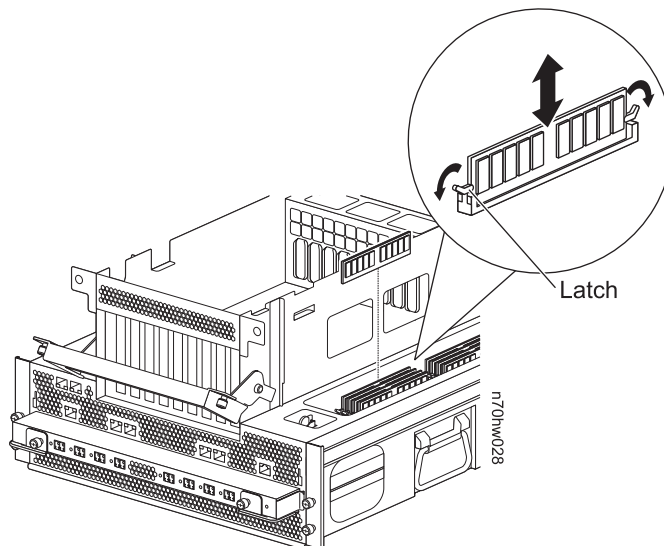

Figure 27. Removing the DIMMs
3. Push apart the latches on either side of the DIMM to release the DIMM from its slot, as shown in Figure 27, and then lift it out of the slot.